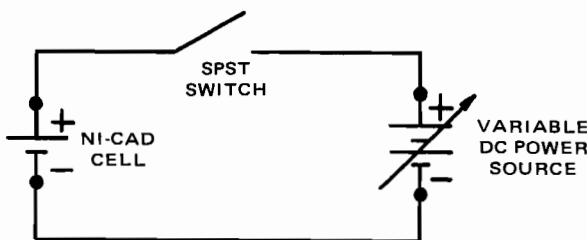

Fig. 3-4-2
5. Remove 4 ohm resistor from discharge circuit and replace it with a variable dc power supply as indicated in Fig. 3-4-2.